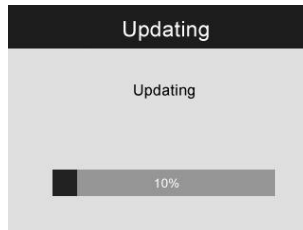

Fig. 28
- 4) Press **Power** button to turn on the tool and then press **UP** button until the update screen pop up, select YES to upgrade the tool (*Fig. 28*)